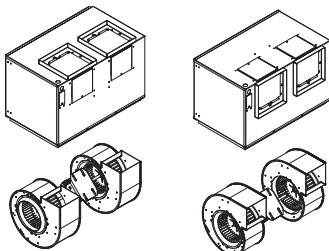

Figure 8 — Rotating Discharge Installation
4. Singlewide and doublewide models can be rotated from horizontal to vertical discharge. To rotate from horizontal to vertical discharge, remove the two screws holding the power assembly in, and pull power assembly out. Rotate power assembly 180 degrees and put back into fan. Use the same screws to reattach power assembly to fan housing. Flip fan over and remove the four screws holding the discharge duct and damper assembly. Exchange the assembly with plate mounted on top of fan, shown in Figure 8.